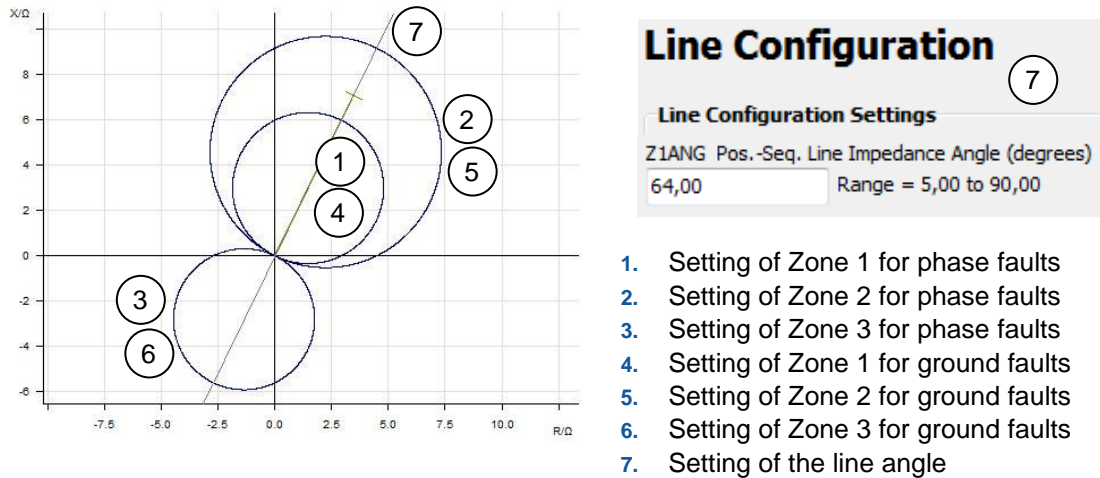

Figure 3: Setting of zones in impedance diagram (mho) for a SEL-421
- Configure zone as per zone setting (see Figure 3) and set the zero-sequence compensation factor embedded in the software. The software will automatically do the compensation